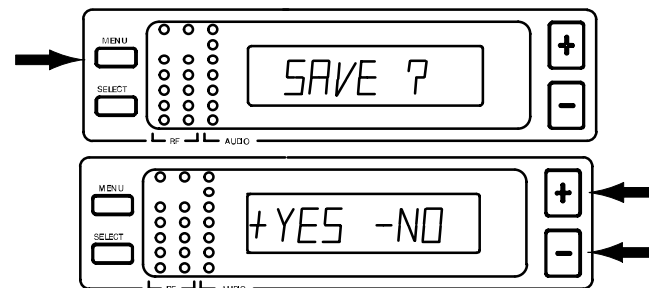

FIGURE 24
- When the new name has been completely entered, press the MENU button. "SAVE?" will appear, followed by "+ YES – NO". Press the "+" button to save the new name and return to the Group/Channel/TV display. Press the "-" button to make more changes. See Figure 24.